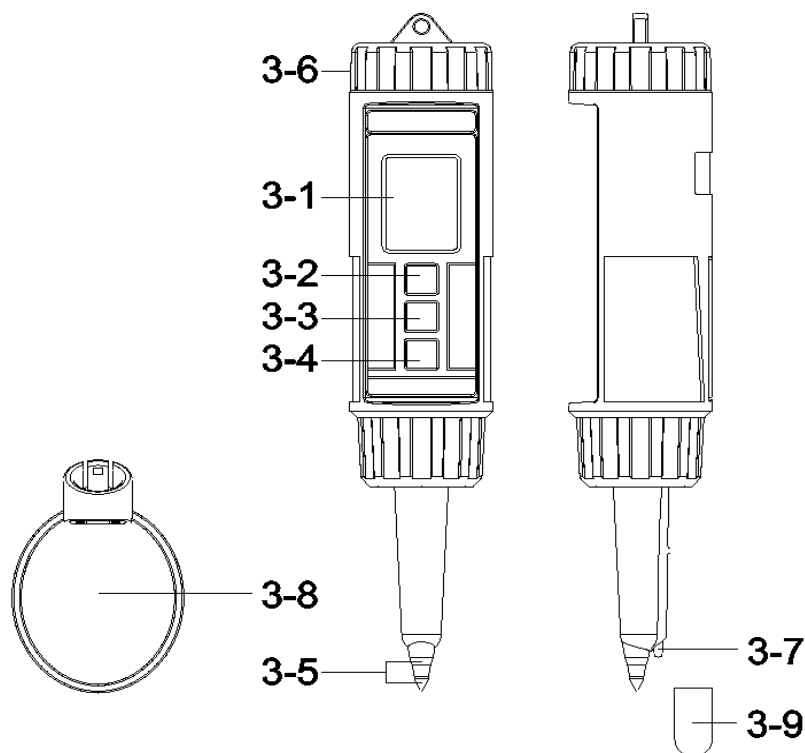
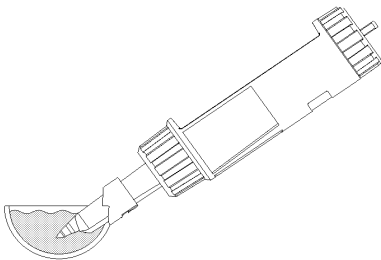

Fig. 1
Fig. 2
2. Turn on the meter by pressing the " Power Button " (3-2, Fig. 1) momentarily. Press the " Power Button " (3-2, Fig. 1), momentarily again will turn off the meter.
3. Test spoon(3-8, Fig. 1) Insert the electrode, as Fig. 2
(use the "Protective cap (3-9 Fig1)" cover to "Salt Sensor Electrode(3-5 Fig)")
- 1) During the measurement, press the " Hold Button " (3-3, Fig. 1) momentarily to hold the measured value. The LCD will show a " HOLD " symbol.
- 1) The data record function records the maximum and minimum readings. Press the " REC Button " (3-4, Fig. 1) momentarily to start the Data Record function, shows " REC " on the display.
- a) Press the " REC Button " (3-4, Fig. 1) momentarily, the " REC MAX " symbol along with the maximum value will appear on the display.
- b) Press the " REC Button " (3-4, Fig. 1) momentarily again, the " REC MIN " symbol along with the minimum value will appear on the display.
- * *When display shows " REC MAX " or " REC MIN ",press the " Hold Button " (3-3, Fig. 1) momentarily will delete the max. (min.) value, the display will show the " REC. " only and execute the memory function continuously.*
- 2) Pressing the " REC Button, Unit Button " (3-4, Fig. 1) continuously at least 2 seconds, then Temp. unit will change from $^{\circ}\text{C}$ to $^{\circ}\text{F}$ or $^{\circ}\text{F}$ to $^{\circ}\text{C}$.
- 2) To replace the battery, rotate and remove the " Battery Cover " (3-6, Fig. 1), take out the old batteries, install new batteries :